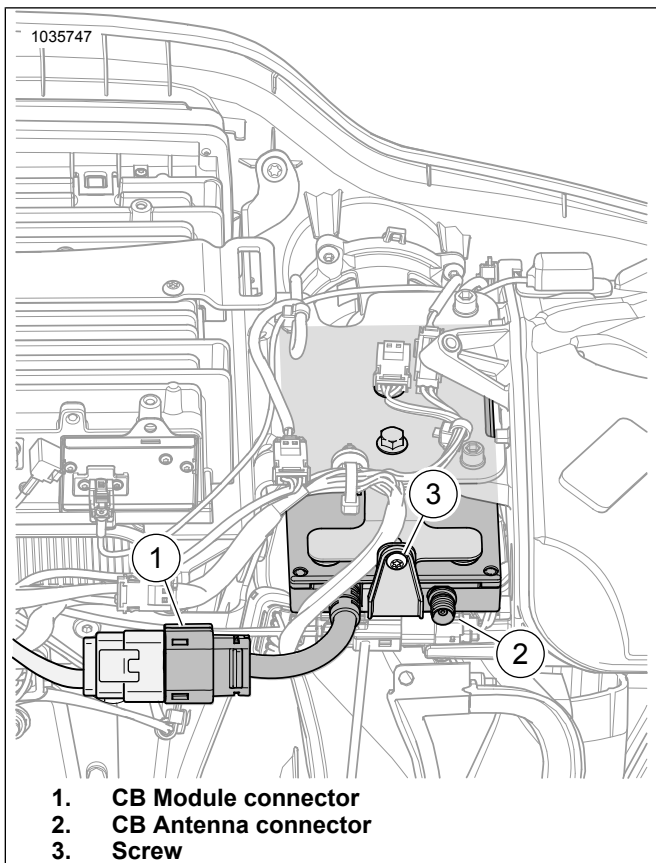

Figure 5. Inner Fairing Harness Connectors
6. See Figure 5. Connect 12-place socket housing to CB [184] (1).